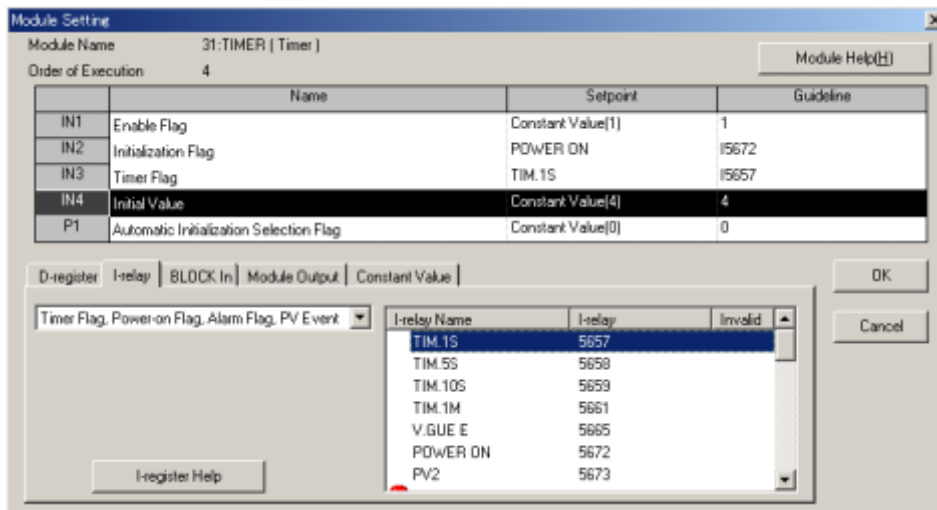

Figure 12.5.22 Configuration of the <IN3> Input
- (10) The <IN3> module input is waiting for the data setting.
- (11) Click the <I-relay> index.
- (12) Click <Timer flag, power-on flag, alarm flag> in the drop-down list box.
- (13) Double-click <TIM.1S> in the list box. The <TIM.1S (Setpoint column)> and <I5657 (Guideline column)> options appear in the <IN3> row. (Figure 12.5.22)